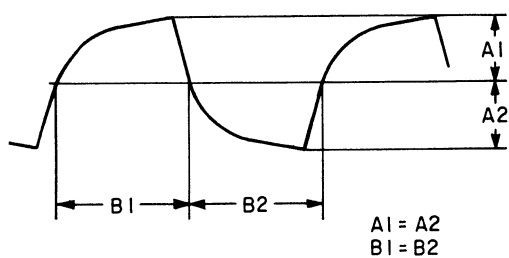

Fig. 2-26
- c) Adjust TC1 so that the positive and negative part of waveform is equal as shown in Fig. 2-26.
(2) FREQUENCY DEVIATION ADJUSTMENT